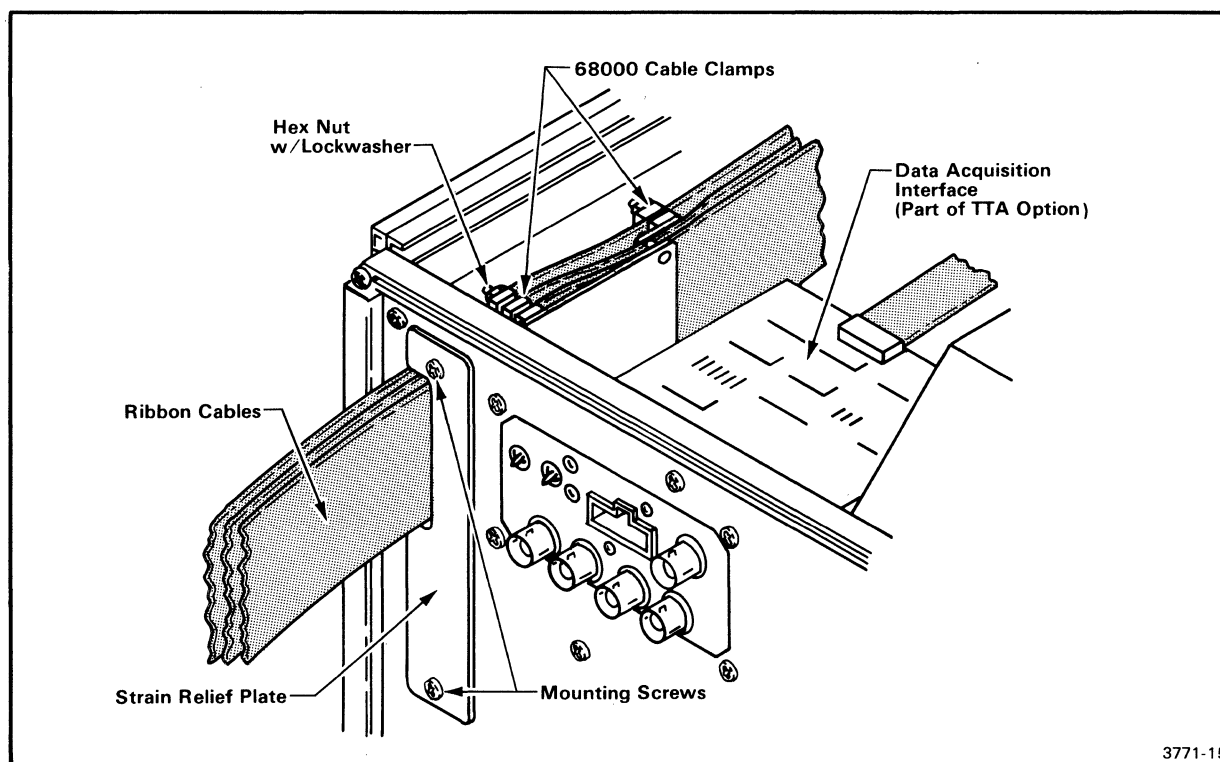

Fig. 9-5. Strain relief plate installation/removal.
11. Remove the two mounting screws at the top and bottom of the strain relief plate, as shown in Fig. 9-5. Then remove the strain relief/cable clamp assembly from the rear panel.